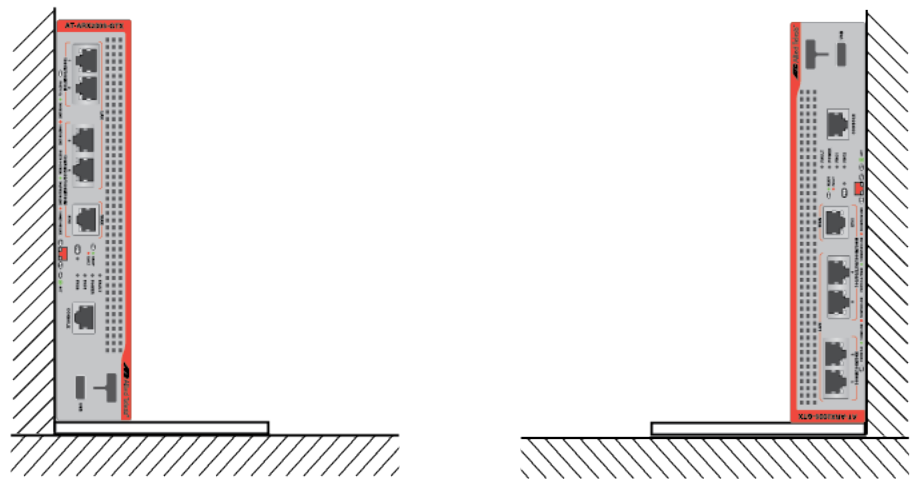

Figure 22. Router Installed Vertically on a Table Against a Wall
- ❑ The router can be installed upright against a wall. Refer to Figure 22.